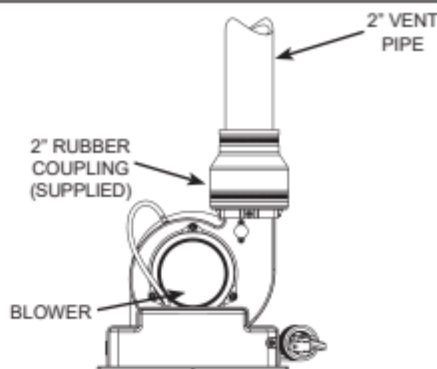
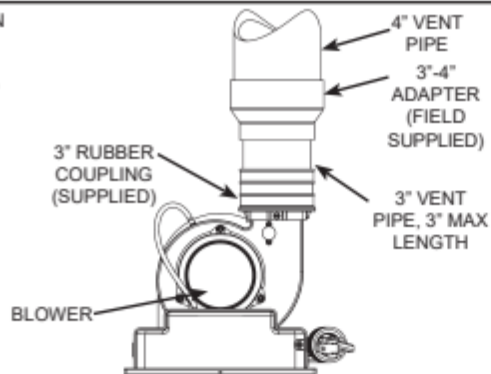

Figure 36.
Figure 40.
1. The plastic vent piping connects into the rubber coupling located on the top of the blower assembly. This coupling includes gear clamps to connect the venting to the blower. These connections must be properly seated and tightened to prevent the leakage of flue gases into the area. See Figure 36 through Figure 40.